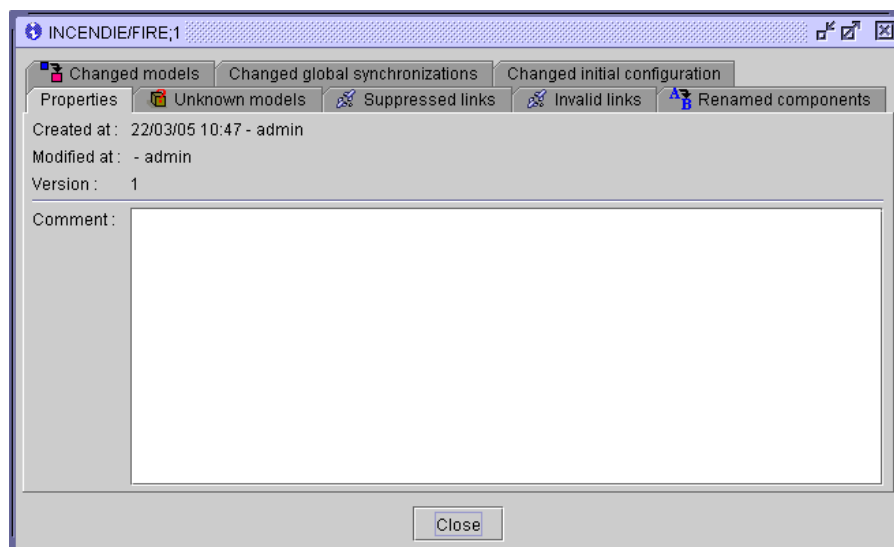

Figure 147 : Information - Properties
- Click on the **Properties** tab (Figure 147) the window displays the following information's :